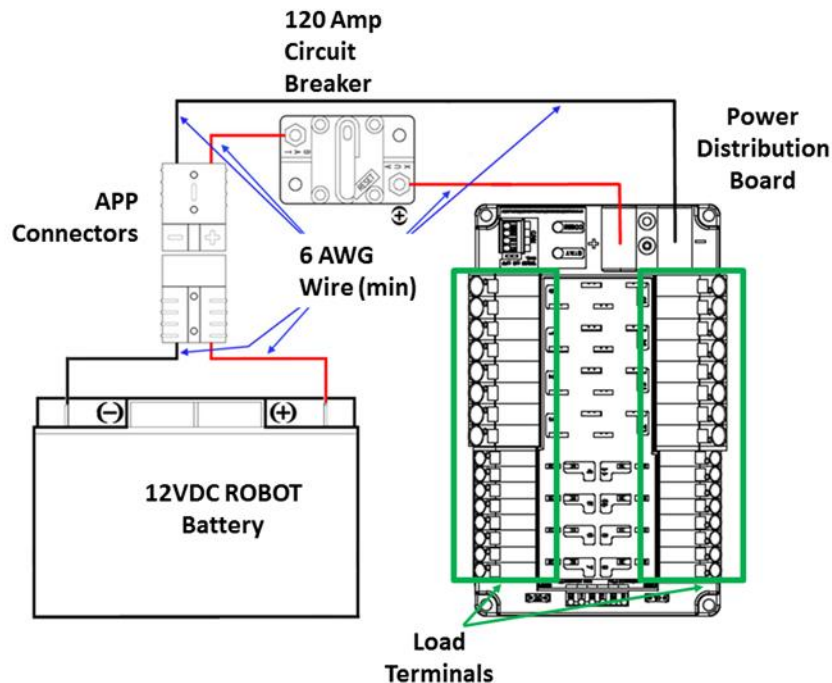

Figure 9-10 Electrical connection diagram
- R40.** The one (1) ROBOT battery, a single pair of Anderson Power Products (or APP) 2-pole SB type connectors, the one (1) main 120-amp (120A) surface mount circuit breaker (Cooper Bussman P/N: CB185-120, CB185F-120, CB285-120), and the one (1) CTR Electronics Power Distribution Panel (PDP, P/N: am-2856, 217-4244, 14-806880) shall be connected with 6 AWG (7 SWG or 16 mm2) copper wire or larger, with no additional devices or modifications, as shown in Figure 9-10.
- R41.** All circuits, with the exceptions of those listed in R46 and R48, must connect to, and have power sourced solely by, a single protected 12VDC WAGO connector pair (i.e. the Load Terminals, as shown in Figure 9-10) of the one (1) CTR Electronics Power Distribution Panel, not the M6 cap screws.